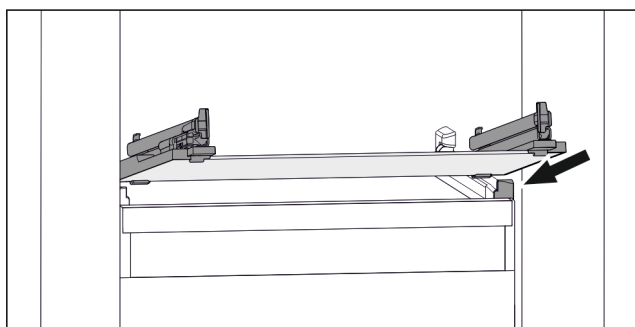

Fig. 89 Example illustration of glass shelf
- Position glass shelf at an angle behind the stoppers. (see Fig. 89)